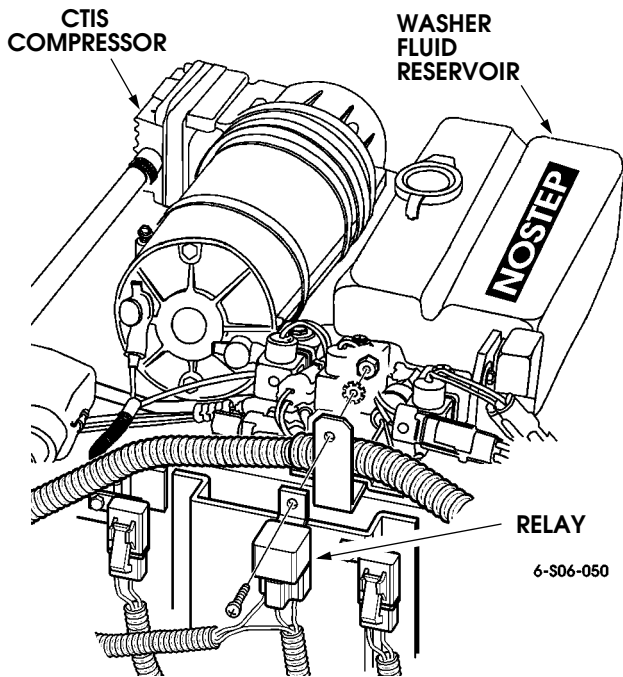

Figure 13-105: Relay Mounting Point, Left Cowl Area
3. Mount the relay above the power and ground distribution studs on the left cowl (Figure 13-105). Some vehicle models may require securing the relay with wire ties to another component in the mounting point area. Mount the relay with the wires facing down to prevent moisture intrusion into the relay.